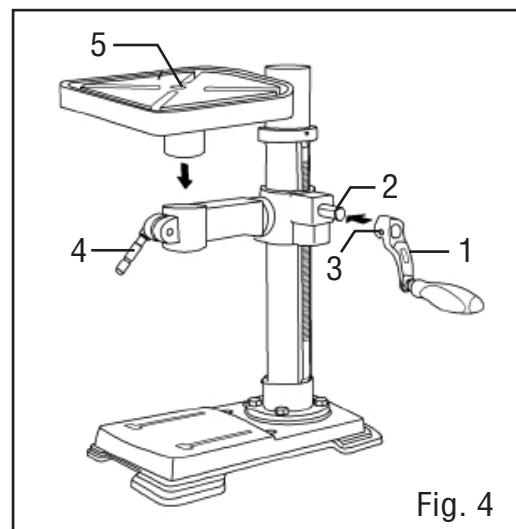

Fig. 4
## TABLE TO TABLE SUPPORT BRACKET (FIG. 4)
1. Place the crank handle (Fig 4 - 1) onto the shaft (Fig 4 - 2) of the table bracket so the flat of the shaft is under the set screw (Fig. 4 - 3). Tighten the set screw.
2. Thread the table lock handle (Fig. 4 - 4) into the front of the table support bracket.
4. Position the table (Fig. 4 - 5) in the same direction as the base. Install the table and tighten the table lock handle (Fig. 4 - 4) and support lock handle.